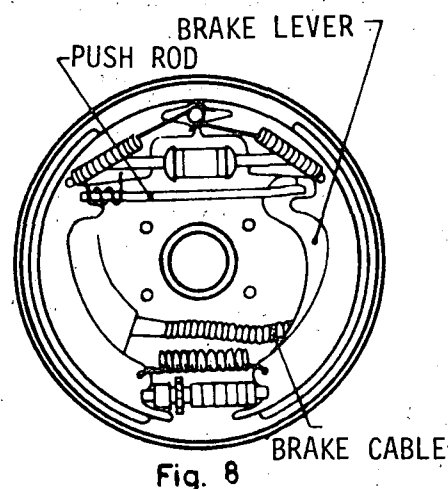

Fig. 8
- d) Install the hand brake operating lever link with its spring and connect the control cable to the operating lever (fig. 8).